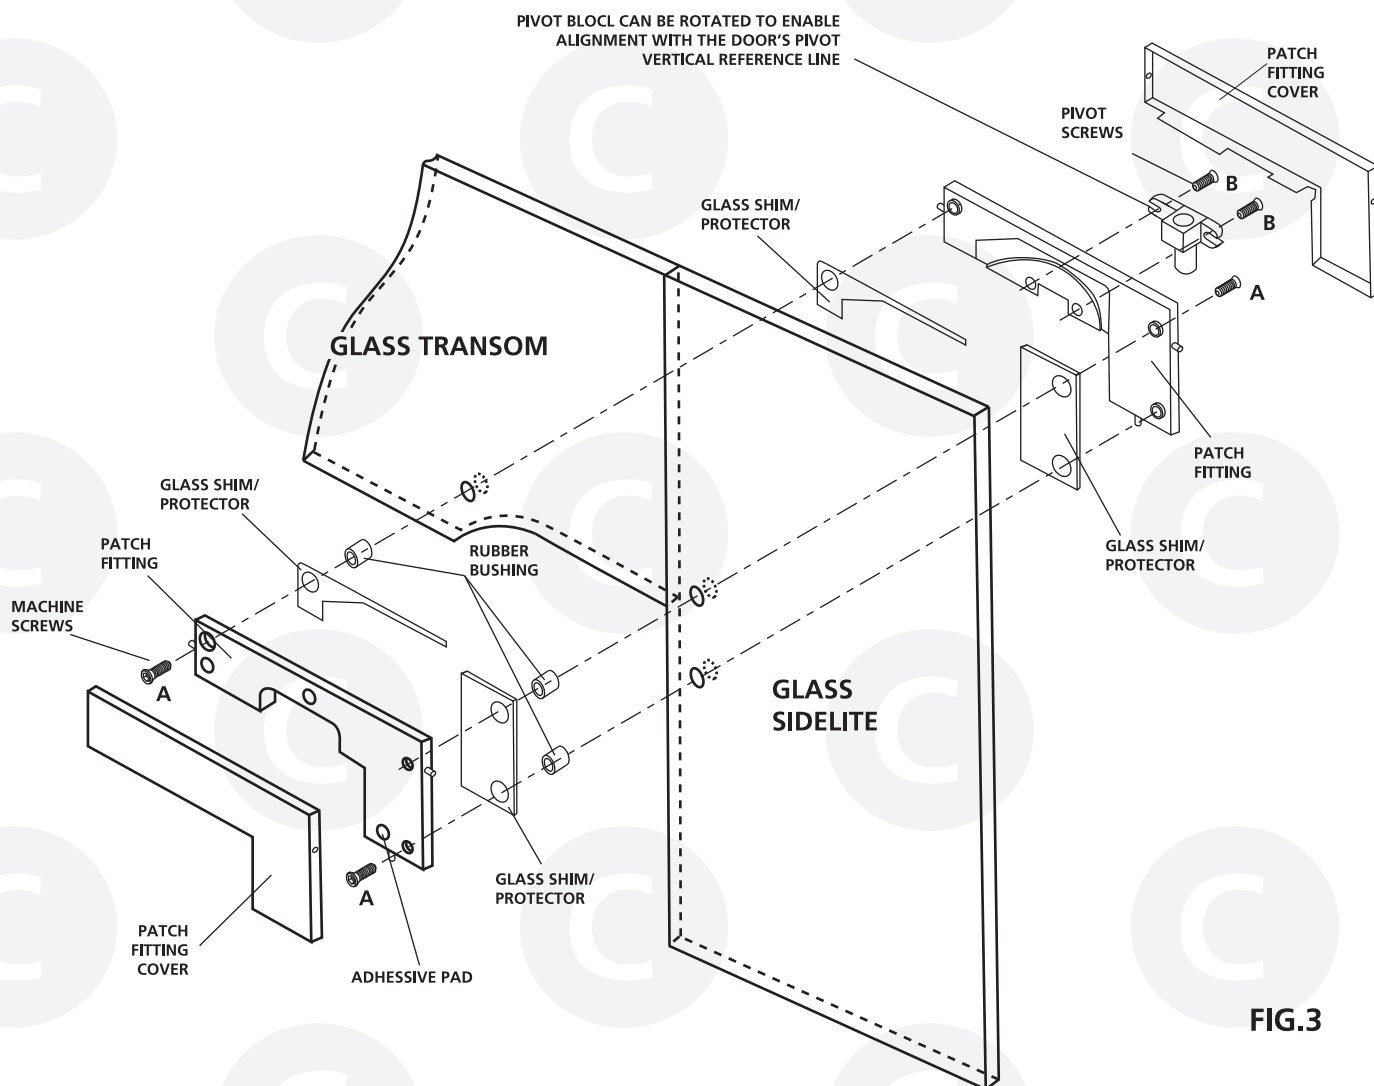

FIG.3
2. Insert the rubber bushings into the glass holes and temporarily attach the PF140 corner patch pivot to the transom and sidelite panels as indicated in Figure 3.